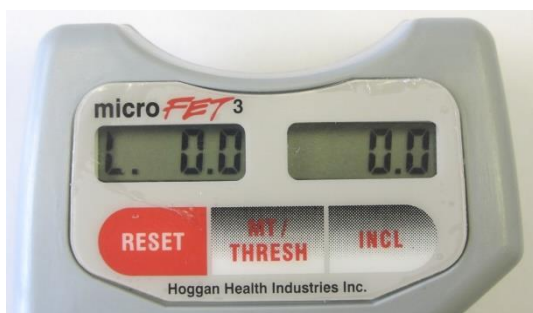

Figure 10. Threshold Setting Indicator / Wireless Mode On
- Wireless mode function when on, is indicated by a dot or period behind the "L" or "H" threshold setting indication (see Figure 10).
- The current threshold setting is displayed as either an “L” or “H” on the left end of the left display window. shows the device in Low Threshold Setting, (see Figure 10).